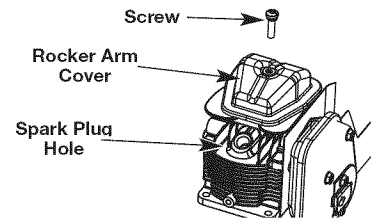

Fig. 27
5. Clean dirt from around the rocker arm cover. Remove the screw holding the rocker arm cover with a large flat blade screwdriver or Torx T-25 bit (Fig. 27). Remove the rocker arm cover and gasket.
- The piston is at the top of its travel. This should be done by looking into the spark plug hole. (Fig. 27)